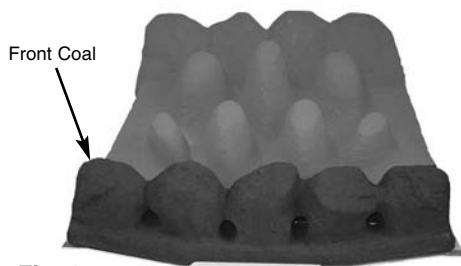

Fig. 15
3. Position the front coal on the front coal retainer, making sure that the back edge is pushed up against the front of the burner strip (Fig. 15).